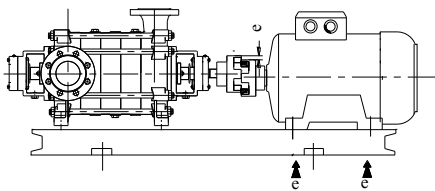
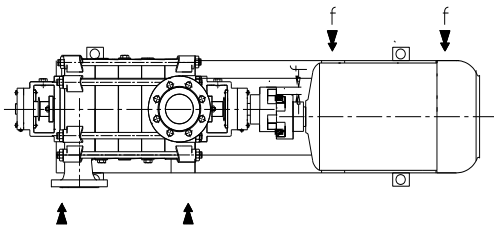

Figure 4: Parallel axis misalignment in vertical plane and its correction
Figure 6: Parallel axis misalignment in horizontal plane and its correction
1.Paralel axis misalignment (Figure4 - Figure 6).